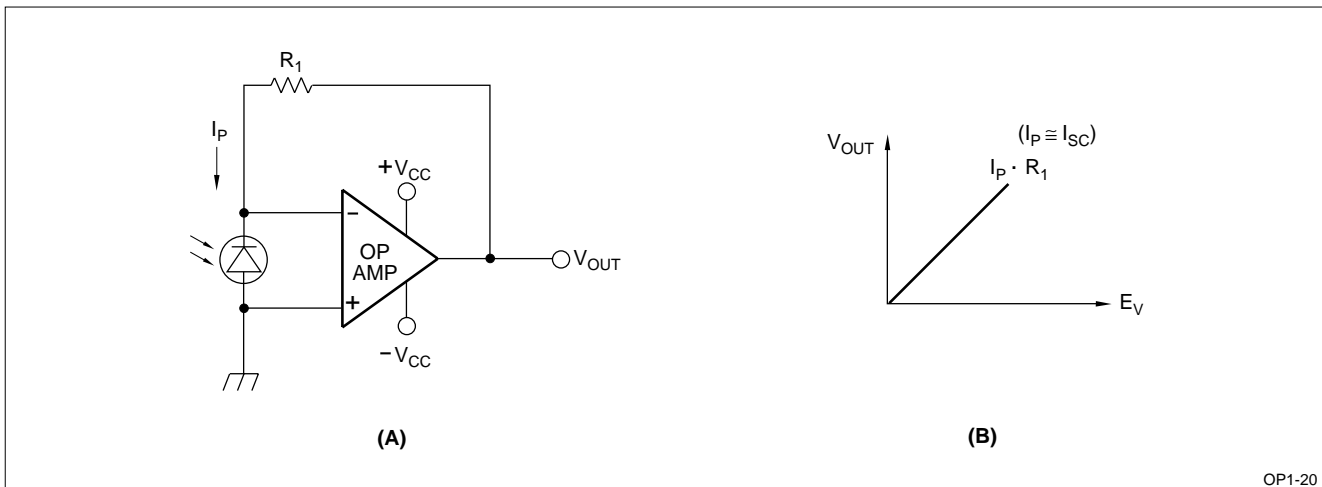

Figure 6. Photocurrent Amplifier using an Operational Amplifier (Without Bias)
Figure 6 shows a photocurrent-voltage conversion circuit using an operational amplifier. The output voltage (V_{OUT}) is given as $V_{OUT} = I_F \times R_1$ ($I_P \cong I_{SC}$). The arrangement utilizes the characteristics of an operational amplifier with two input terminals at about zero voltage to operate the photodiode without bias. The circuit provides an ideal short-circuit current (I_{SC}) in a wide operating range.
Figure 6 (B) shows the output voltage vs. radiant intensity characteristics. An arrangement with no bias and high impedance loading to the photodiode provides the following features: